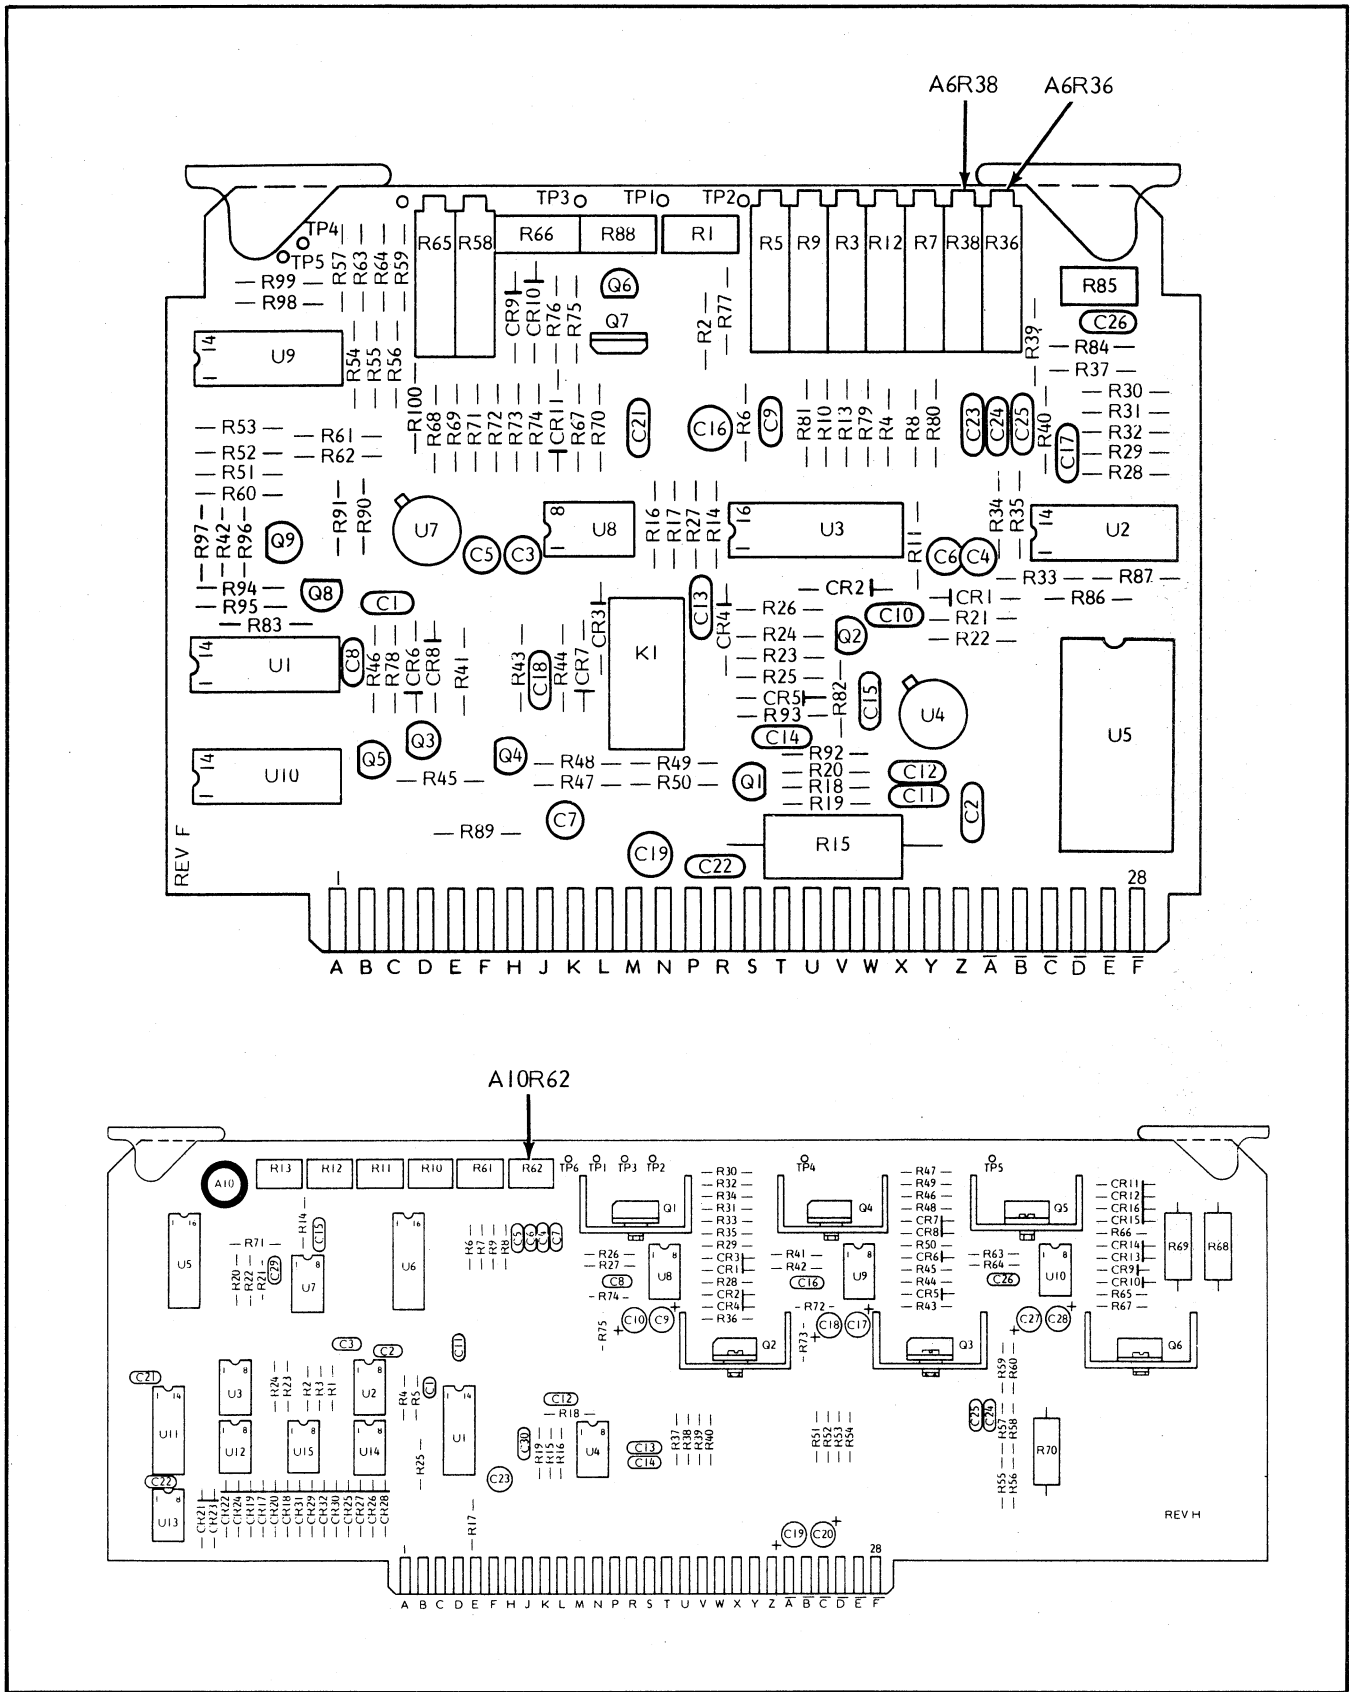

Figure 5-31. Tracking Filter Adjustments
- alternately adjust A6R36 and A6R38 (Figure 5-31) to obtain maximum out-